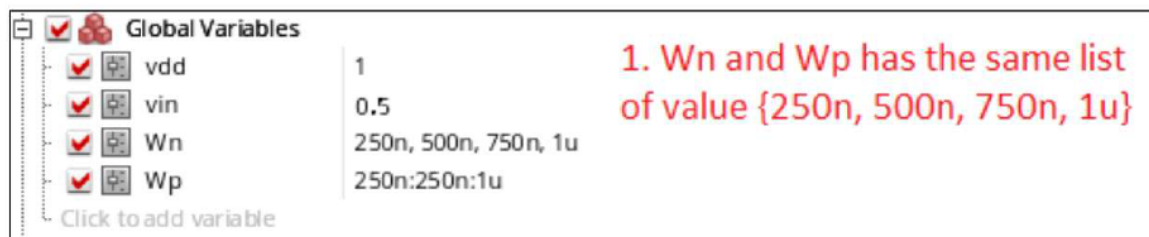
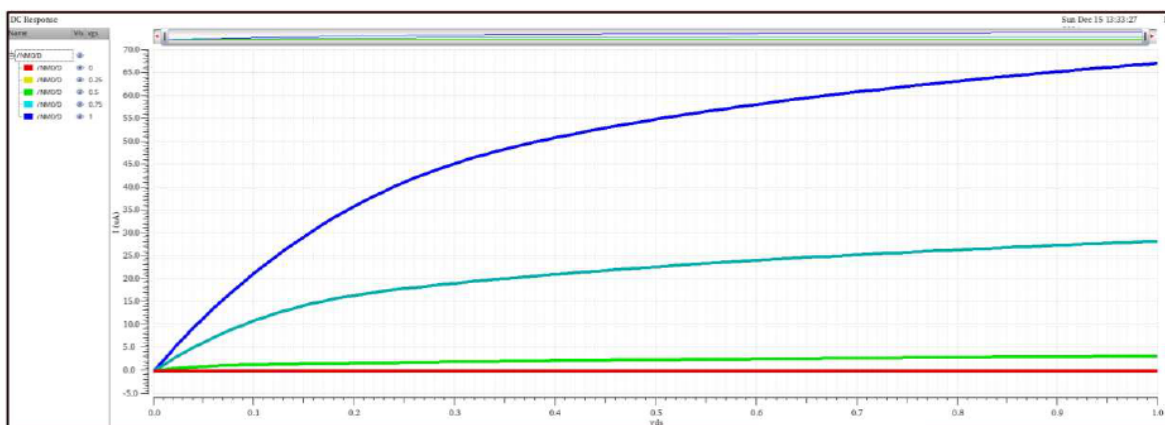
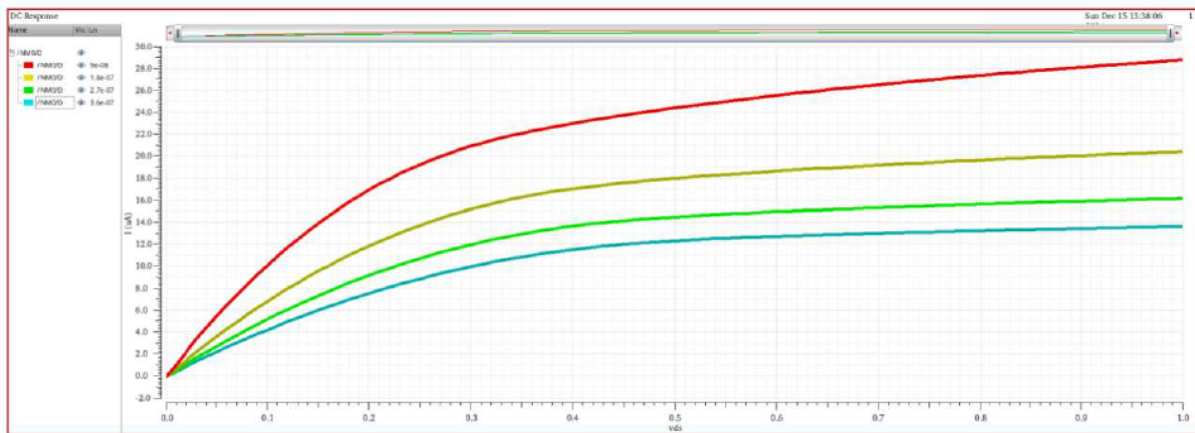

Figure 5. Setting parameters for changing W of NMOS {250, 500, 750, 1000} nm
Figure 6. $I_{DS} = f(V_{DS})$ waveform with $V_{GS} = \{0, 0.25, 0.5, 0.75, 1.0\}$ V
Figure 7. $I_{DS} = f(V_{DS})$ waveform with $L = \{90, 180, 270, 360\} \text{ nm}$
- Sweep multiple variables in parallel using ADE-Explorer: You can refer to the setting in **Figure 5** (don't follow completely the setup), and observe the result shown in **Figures 6** and **Figures 7**.